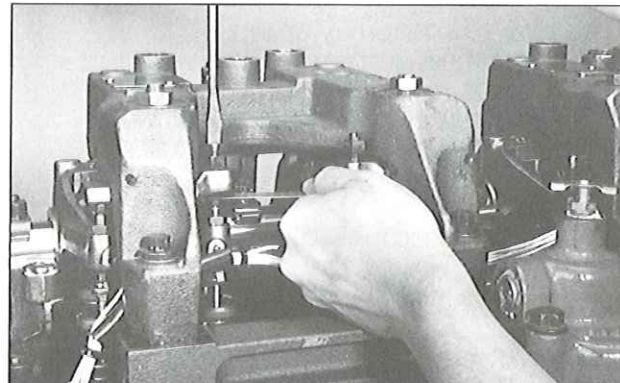

FIG. 21
5. Follow the same procedure and set the same clearance between the slave piston leveling screw and the rocker arm adjusting screw (see Fig. 21).